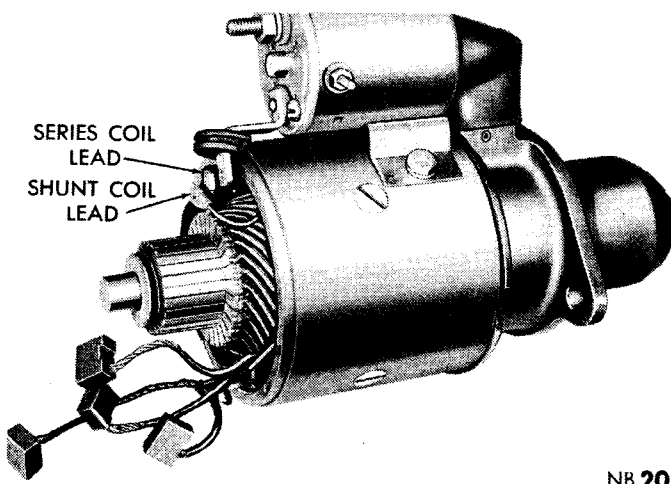
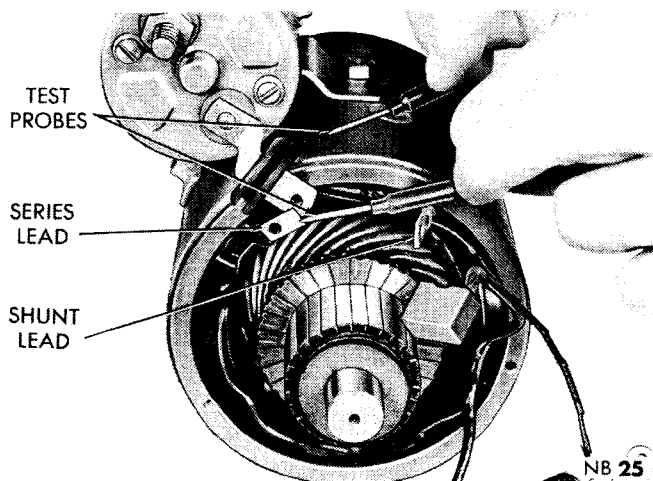

Fig. 3—Field Coil Leads Disconnected From Solenoid Connector
Fig. 10—Testing Series Coil For Ground
- (5) Disconnect field coil leads at solenoid connector (Fig. 3).
(1) Brushes that are worn more than 1/2 the length of new brush, or are oil-soaked, should be replaced. Brushes and springs can be replaced after removing commutator end head and brush plate.
(2) Disengage brushes from brush holders and remove brush plate.
(3) Disconnect series coil and shunt field coil terminal at solenoid connector (Fig. 3).
(4) Remove ground brush terminal screw and carefully remove ground brush set to prevent breaking shunt field lead.
(5) Remove shunt field lead from old brush set to ensure as much length as possible.
(6) Remove field terminal plastic covering and remove old brushes. Use side cutters to break the weld by rolling the stranded wire off the terminal.
(3) Disconnect field lead wires at solenoid connector and separate field leads to make sure they do not touch solenoid connector (Fig. 3).
(4) Remove ground brushes attaching screw, and raise brushes with terminal and shunt wire up and away from field frame.
(5) Touch one probe of test lamp to series field coil lead and other probe to field frame (Fig. 10). Lamp should not light.